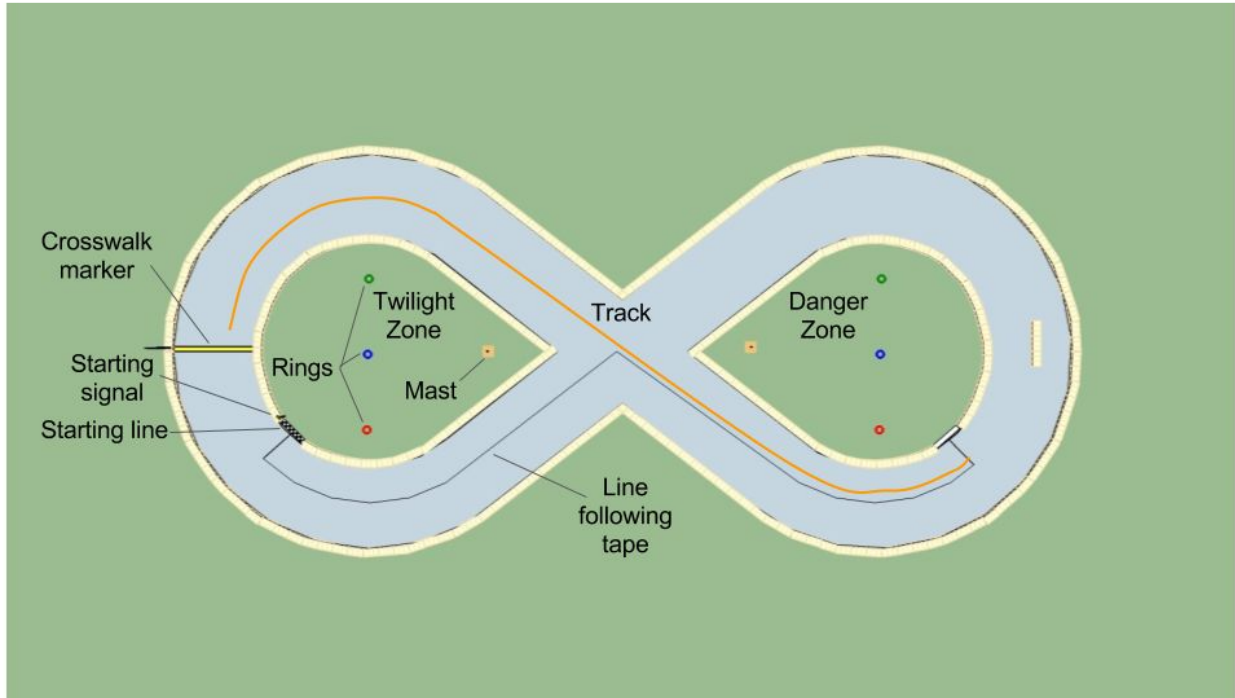

Figure 3.1. Course Layout
- 3.1. Layout Figure 3.1 shows the basic course overview with the sections, rings and mast labeled. The idea is that rings from the Twilight Zone need to be delivered to the Danger Zone, and rings from the Danger Zone need to be delivered to the Twilight Zone. Ideally, the rings should be sorted and stacked on the opposite zone's mast for maximum points.